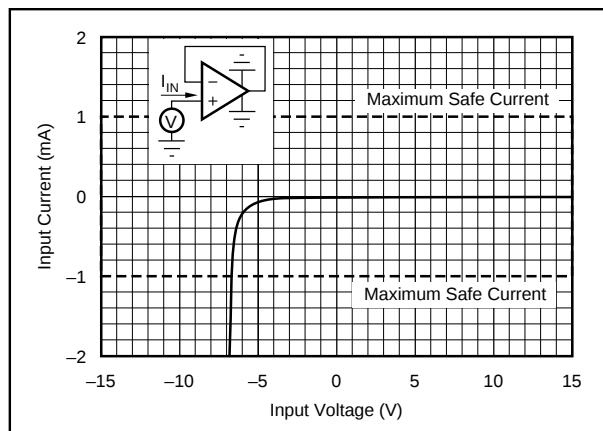

FIGURE 2. Input Current vs Input Voltage with $\pm V_{CC}$ Pins Grounded.
NOTES: (1) Packages must be derated based on $\theta_{JC} = 150^\circ\text{C/W}$ or $\theta_{JA} = 300^\circ\text{C/W}$. (2) For supply voltages less than $\pm 18\text{VDC}$, the absolute maximum input voltage is equal to $+18\text{V} > V_{IN} > -V_{CC} - 6\text{V}$. See Figure 2. (3) Short circuit may be to power supply common only. Rating applies to $+25^\circ\text{C}$ ambient. Observe dissipation limit and T_J .